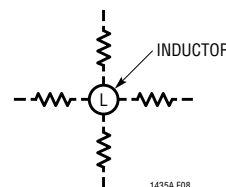

Figure 8. Allowable Inductor/ R_{SENSE} Layout Orientations
Because of the sensitivity of the LTC1435A current comparator when operating close to the minimum on-time limit, it is important to prevent stray magnetic flux generated by the inductor from inducing noise on the current sense resistor, which may occur when axial type cores are used. By orienting the sense resistor on the radial axis of the inductor (see Figure 8), this noise will be minimized.
8. If operating close to the minimum on-time limit, is the sense resistor oriented on the radial axis of the inductor? See Figure 8.